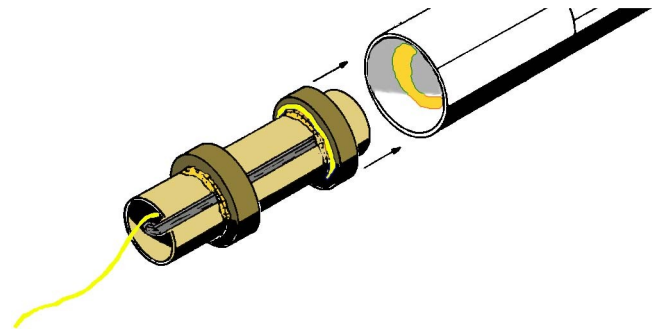

Figure 8
- **Step 13** Push the Kevlar thread down through the center of the EM-710 mount from the front and pull tight. Apply a bead of full-strength glue inside the body tube at the rear, about 1.5" up, as shown in Fig. 8. Insert the front end of the mount into the bottom of the body tube and push forward with a smooth, continuous motion until the bottom of the motor tube is even with the bottom of the body tube. Do not stop during this process, or the mount will 'freeze' in the wrong place. Allow to dry.
- **Step 21** After the final color coat has dried for several days, spray a clear gloss acrylic coat over the entire model in the same manner as shown in Fig. 8.. Give this a day to fully cure, then apply decals of your choice. When the decals have dried completely, give the model another coat of the acrylic clearcoat to seal the decals and protect them from flight hazards.